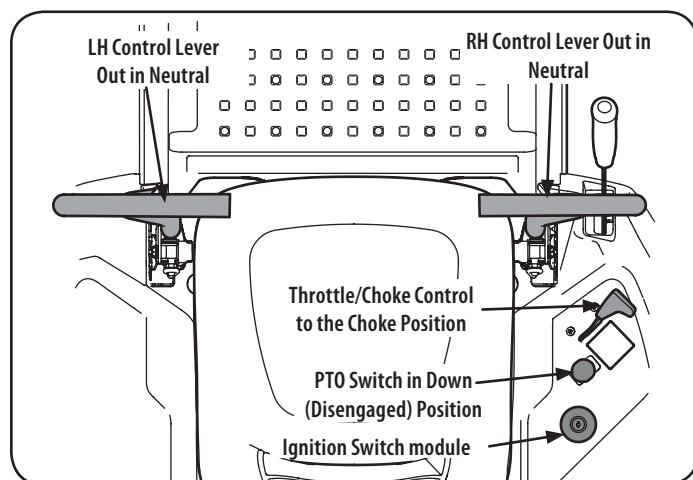

Figure 8
2. Make certain the PTO switch is in the disengaged (down) position. Refer to "Figure 8".